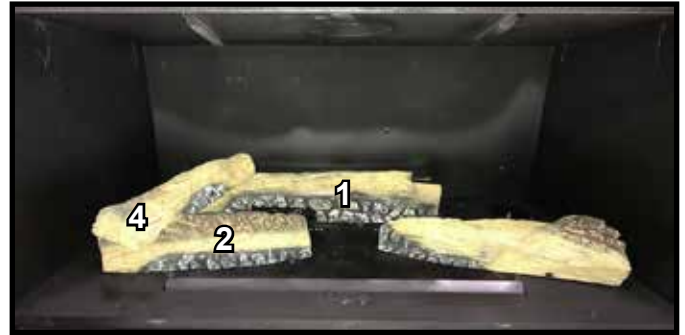

Figure 6. Log #4 Installed
**LOG #4:** With the burnout area of Log #4 facing right, place log on flat spot of Log #1 and Log #2. Slide Log #4 back until it contacts back of firebox. See Figure 6.